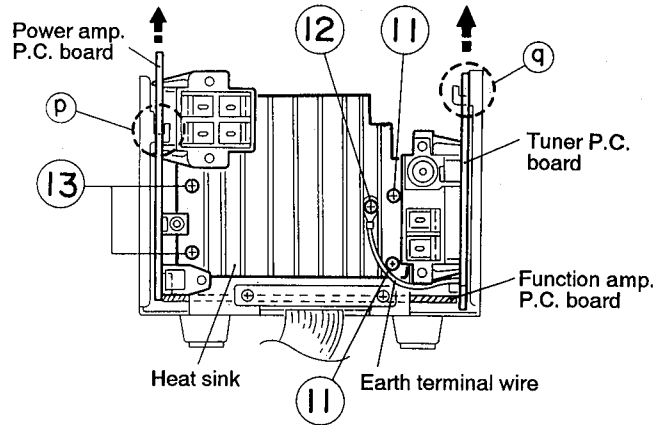

Fig. 5-32
**Removing the power amp. P.C. board and heat sink** (See Figs. 5-32 and 5-33)
1. From the back face of the body, remove the three screws { ① x 2 and ② x 1 } retaining the heat sink. For dismantling the heat sink alone, further remove the two screws ③ .
2. While disconnecting the connectors CN301 and CN308 on the power amp. P.C. board respectively from the function P.C. board, remove the power amp. P.C. board upward, and disengage the engagement ④ between the chassis and P.C. board in arrow direction.
(See Figs. 5-32 and 5-33)